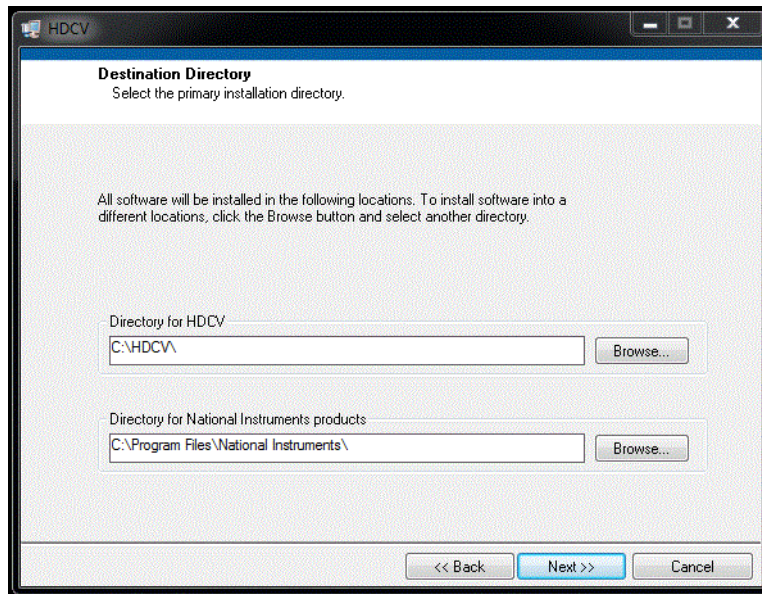

Figure 4-8: HDCV Installation – Step 1
1. Select and run the setup application file provided. After starting the file a series of dialog boxes will appear. First, select a directory for HDCV (see: Figure 4-8).